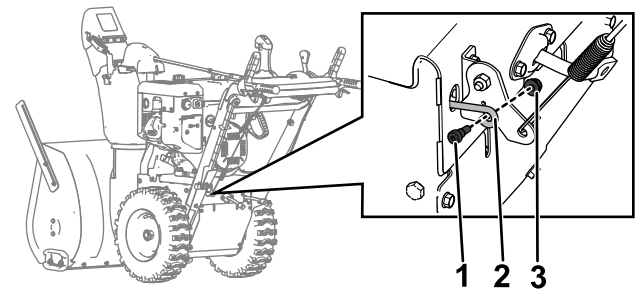

Figure 9
2. Connect the one end of the rod to the new traction-cable bracket using a bolt and nut included with the kit as shown in Figure 9.